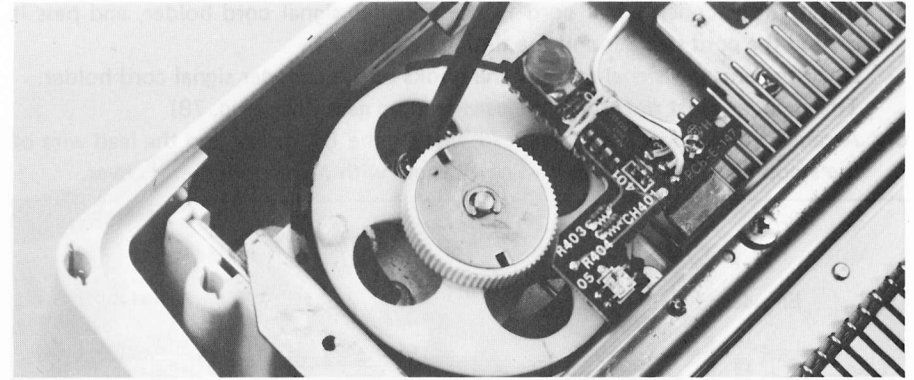

Fig. 82
- B. Loosen the screw for the pully adjusting plate (Fig. 82)